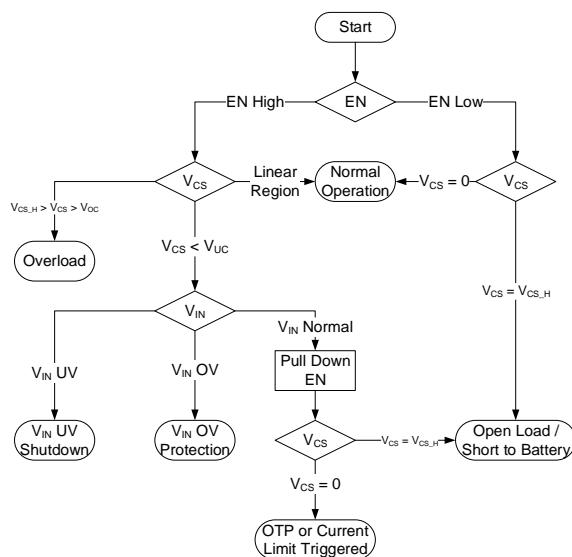

Figure 16: Fault Diagnostics Flowchart (OC Condition)
If there is an over-current (OC) condition during the on state, the analog-to-digital converter (ADC) might miss the interval when V_{CS} is high because the OC deglitch time is so short. In this scenario, there is another progress to detect the fault condition (see Figure 16 on page 23).